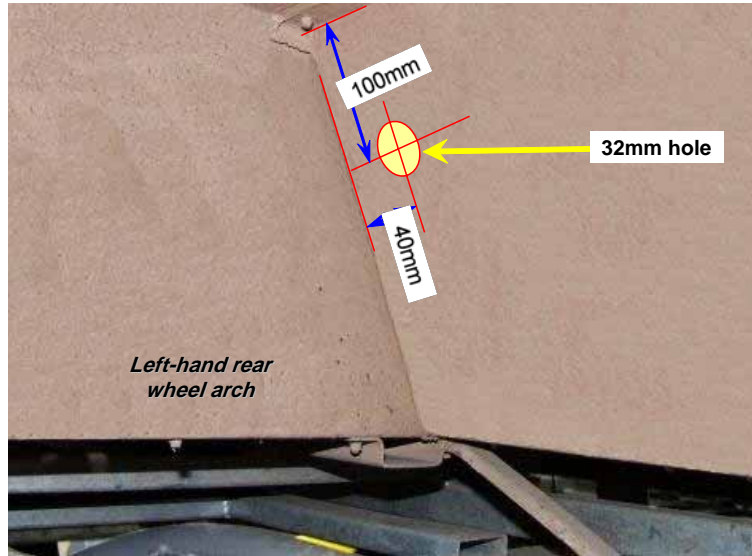

Figure 19 Location of the Cable Entry Hole into the Main Battery Box
- (1) Measure and mark the location for a cable access hole through the back of the left-hand inside guard arch into the new vehicle battery box as shown in Figure 19. Drill the hole with a 32 mm hole saw (Table 3, Item 3) and then clean and de-burr on both sides of the panel.